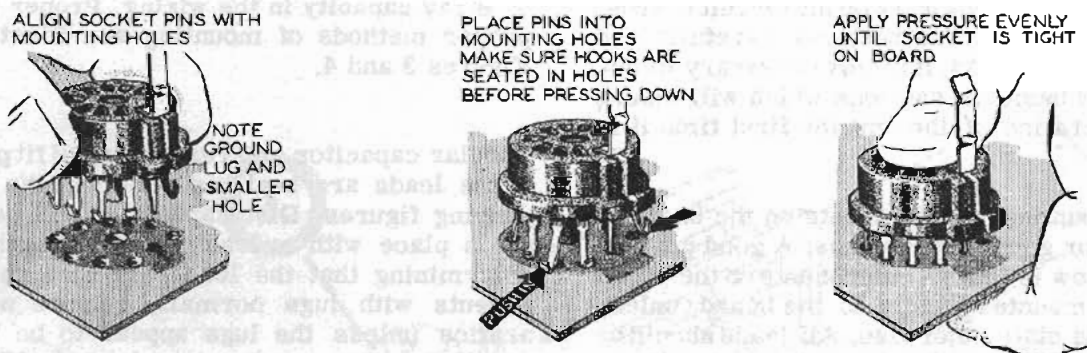

Figure 4
- ( ) Install two 9-pin tube sockets (#434-78, with shield clip) at locations V1 and V2. See also Figure 4. On each socket, solder all ten connections and the center post to the foil.